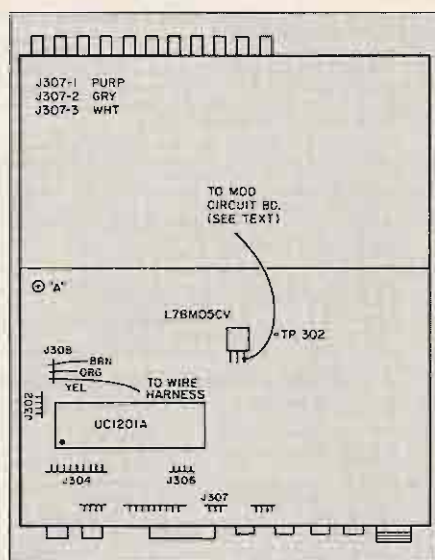

Figure 1. The opened HR2510. Front panel faces down.
The next question was: What kind of indication from the frequency knob on the front panel did the transceiver need to change frequency up or down? Some physical lead following lead to jack J307 on the main circuit board. (See Figure 1.) A little scope probing soon revealed that for an "up" command, a positive going pulse was needed on J307-3, and for a "down" command, a positive pulse was needed on both J307-2 and J307-3.
1. The ground wire of your circuit board (IC pin 1,6,7, etc.) is routed along the left edge of the chassis and fastened under the screw at point A. (Figure 1)
2. The voltage supply wire (IC pin 14, etc.) is routed toward the center and to the L78M05CV regulator. Carefully solder to the right hand lead as shown in Figure 1.
5. Refer to Figure 1 and locate J308 with the brown, orange and yellow wires attached. About 1 inch from the connector, cut the brown and orange wires. This will allow easy restoration of the HR2510 to its original configuration.